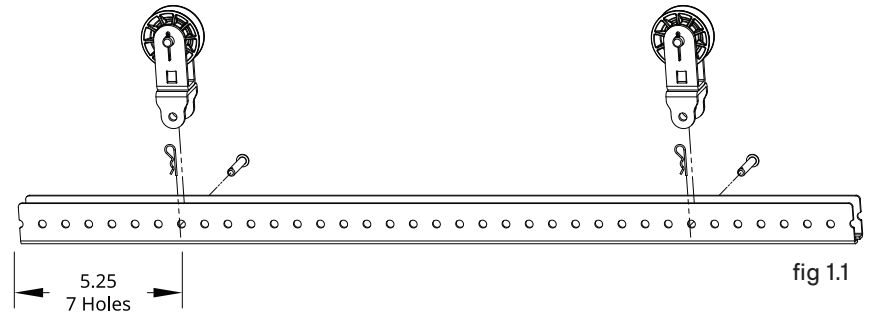

fig 1.1
2. From either end of the frame, count seven holes in from the end and place a pulley on the frame and secure it with a cotter and clevis pin. (fig 1.1)